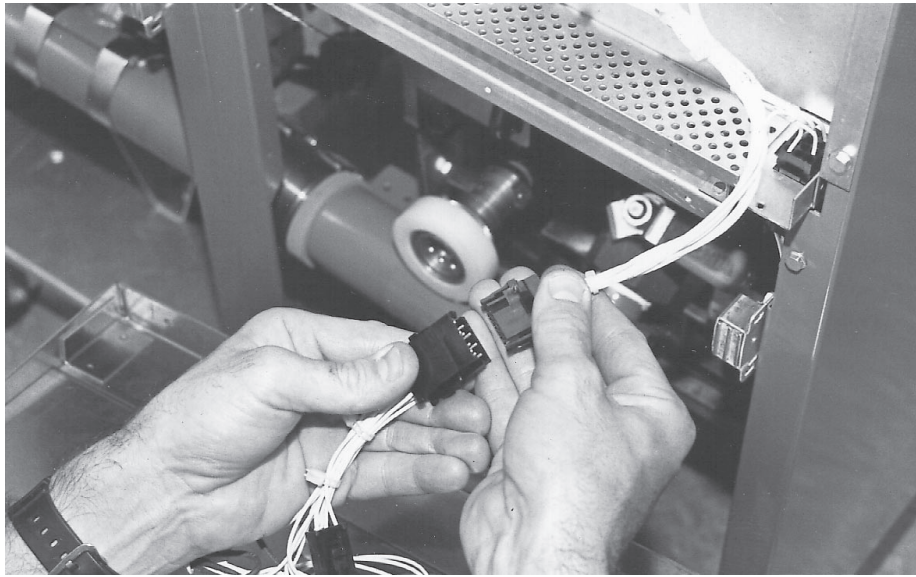

Fig. 3
1. Follow steps 1 through 3 under Standard Millivolt Construction. (Fig. 3)